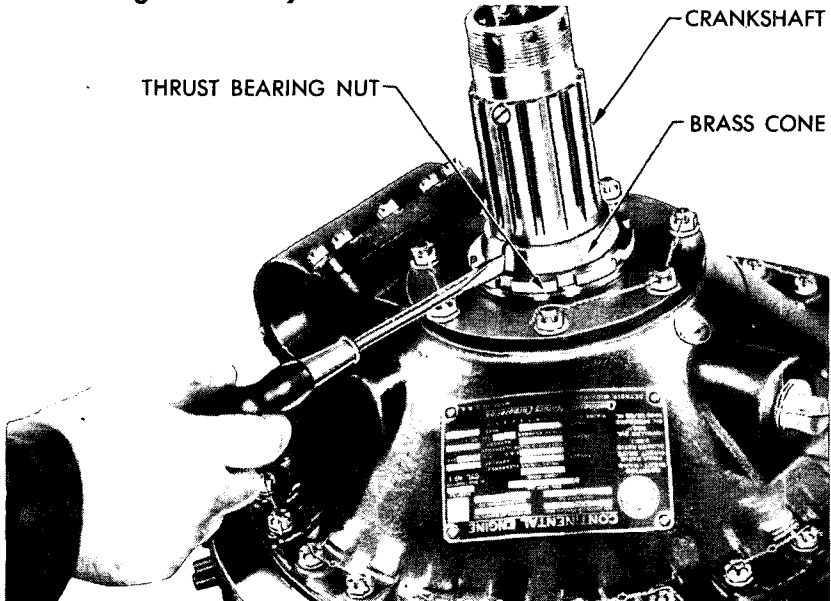

Figure 58 – Removing Split Brass Cone from Crankshaft
p. Remove Split Brass Cone. Remove protecting cap from threaded end of crankshaft. Insert screwdriver in split brass cone on shaft. Spread cone, and lift cone off shaft (fig. 58).